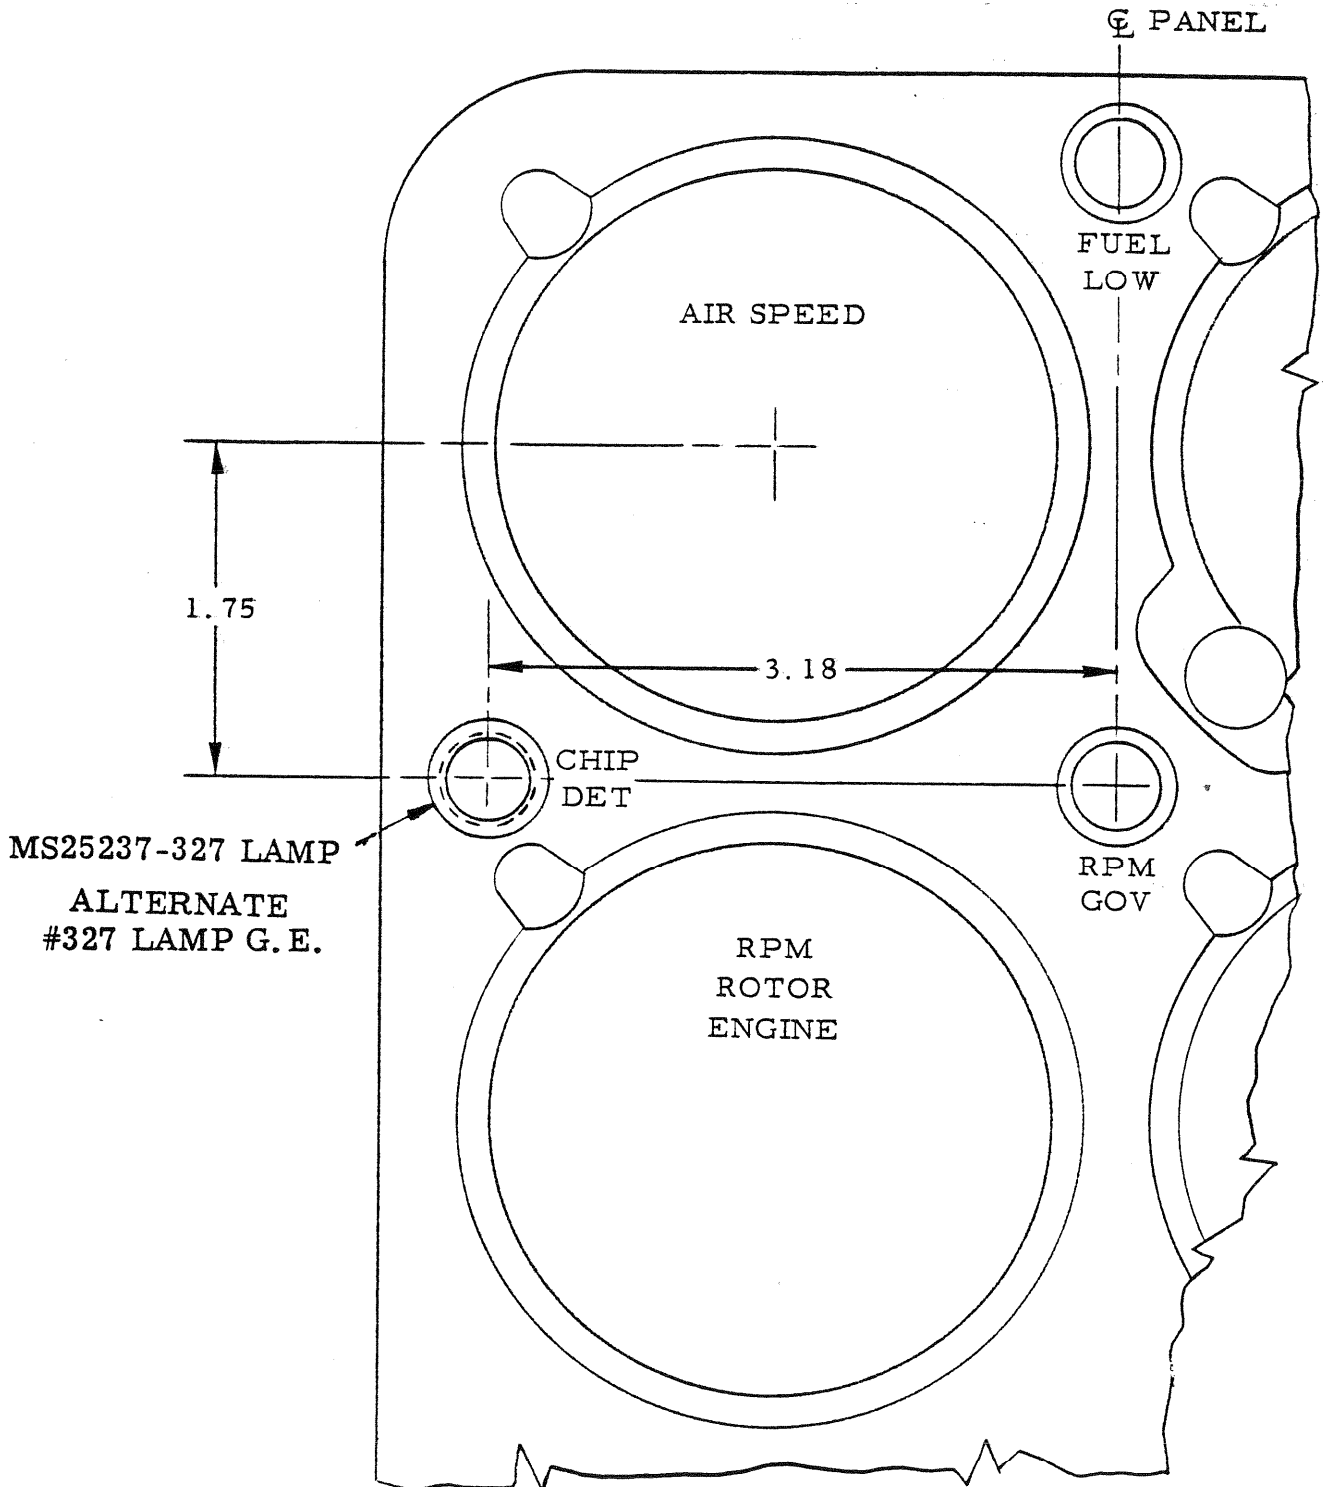

Figure 2
- i. Locate and drill 0.500 to 0.505 inch diameter hole in instrument panel. (See Figure 2)